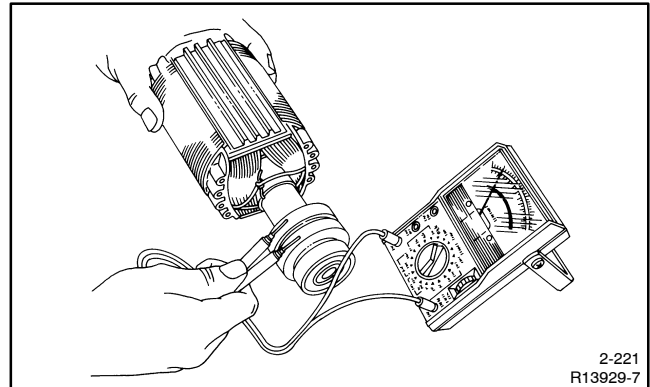

Figure 5-9 Rotor Resistance Check
5. Check the rotor for continuity and resistance. Raise the brushes from the slip rings while performing ohmmeter tests. Measure the rotor resistance (ohms) between the two slip rings; see Figure 5-9. See Section 1.5, Alternator Specifications, for rotor resistance readings. If the resistance readings are low, perform a megohmmeter test on rotor as described in the next step.